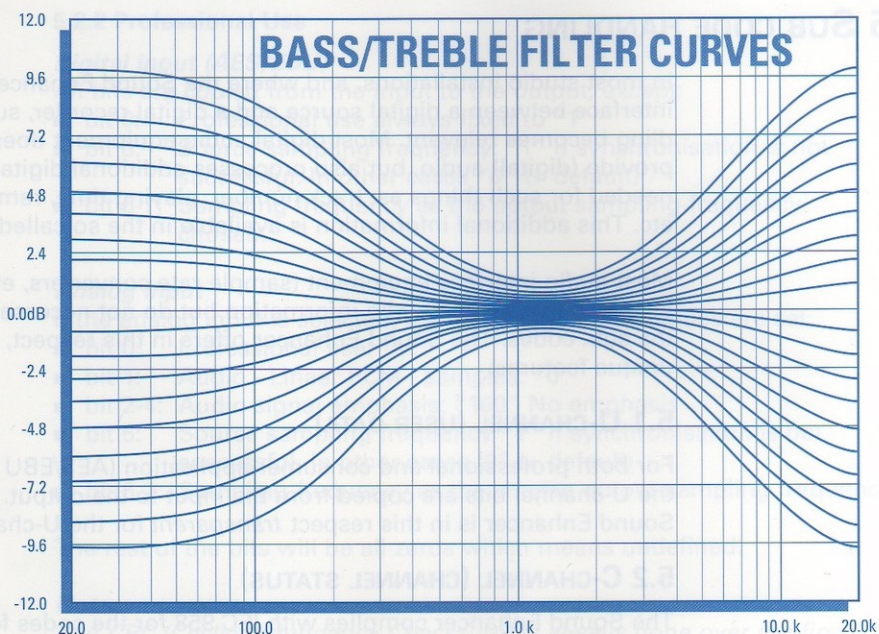

Figure 6.7 Bass/Treble Filter curves.
- **Bass/Treble;** (Refer to figure 6.7)